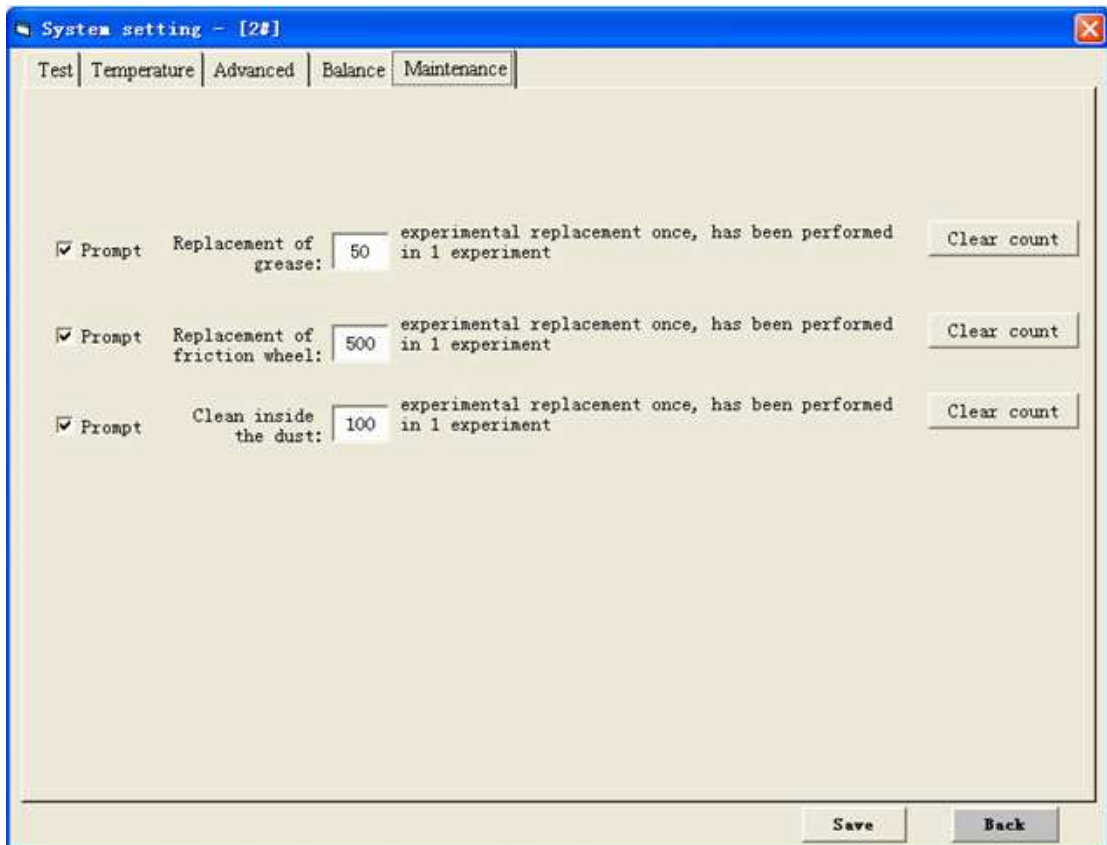

Fig.4-2-5
5、Maintenance setting: Click “System setting” to enter into the window shown as Fig4-2-5.